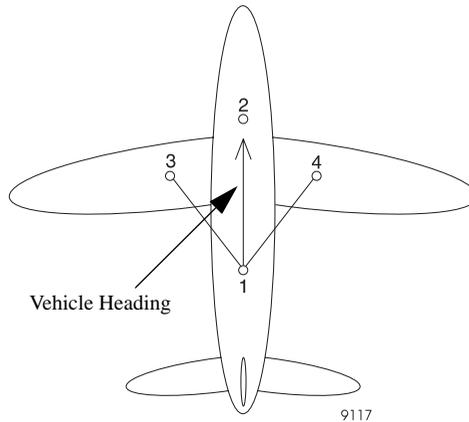

Figure 3.2. Suggested Locations for Antennas on Aircraft
3. If you are mounting each antenna individually, then secure Antennas 1 and 2 such that the line formed between Antenna 1 and Antenna 2 is along, or parallel to, the centerline of the vehicle (Figure 3.2).